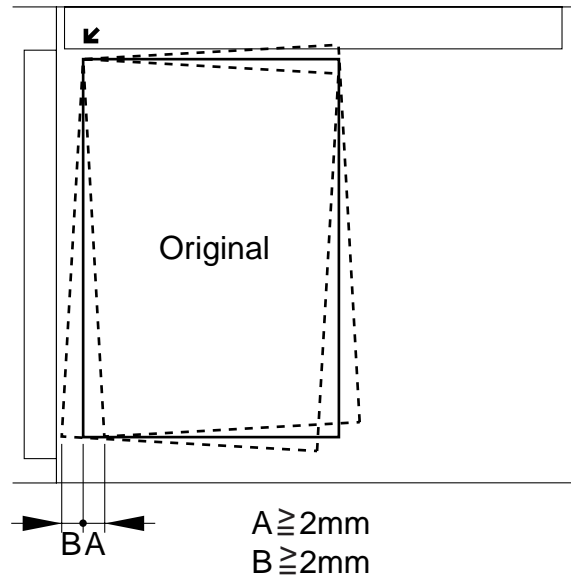

Figure 5-126
- 5) Open the ADF slowly, and check to make sure that A and B shown in Figure 5-126 are within 2 mm.